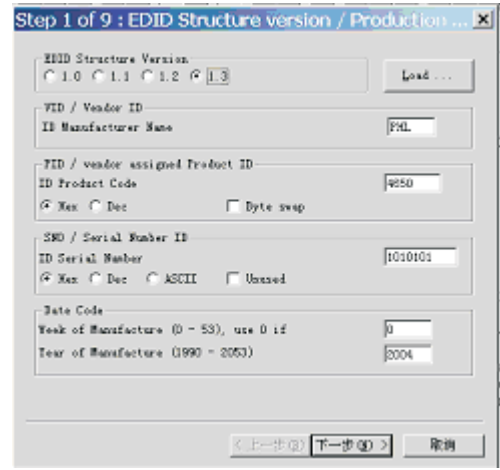

Fig. 14
- 1. Click icon (new function) from the tool bar, bring up Step 1 of 9 as shown in Fig. 14. EDID45 DDC application provides the function selection and text change (select & fill out) from Step 1 to Step 9.